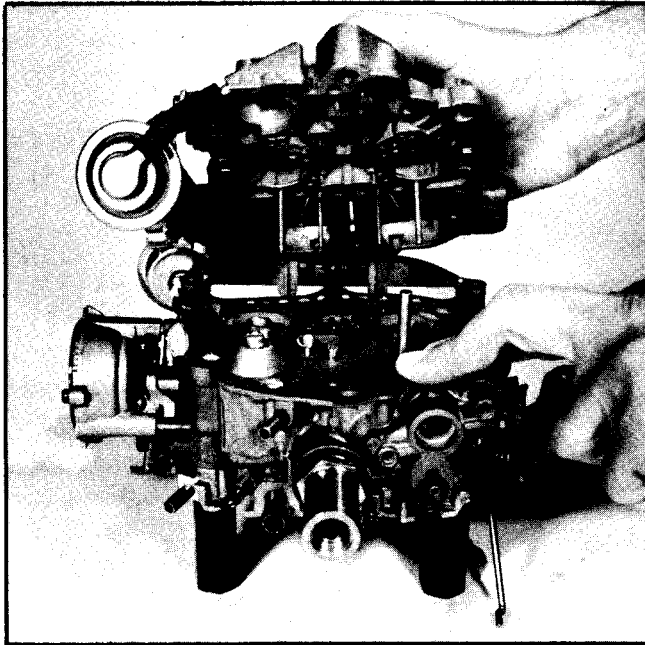

Figure 69 Installing Air Horn
NOTICE: Air horn gaskets for "modified" Quadrajets differ in that some have an extra hole forward of the main metering rod hanger, either for the auxiliary hanger (dual power piston models) or for the APT adjustment screw (Fig. 69). Be sure to use the correct gasket for the carburetor being worked on.
27. 4MV-4MC models — install accelerator pump plunger in pump well. M4MC-M4ME models — if used, install bowl vent valve spacer on accelerator pump plunger stem. Carefully lift corner of the air horn gasket and install accelerator pump plunger in the pump well by pushing the plunger to the bottom of the well against return spring force. While holding in this position, align pump plunger stem with hole in gasket and press gasket into place (Figure 69).
Carefully lower air horn assembly onto float bowl (holding down on air horn gasket at pump plunger location), making sure that the bleed tubes, pull-over enrichment tubes (if used), and pump plunger stem are positioned properly through the holes in the air horn gasket (Figure 69).